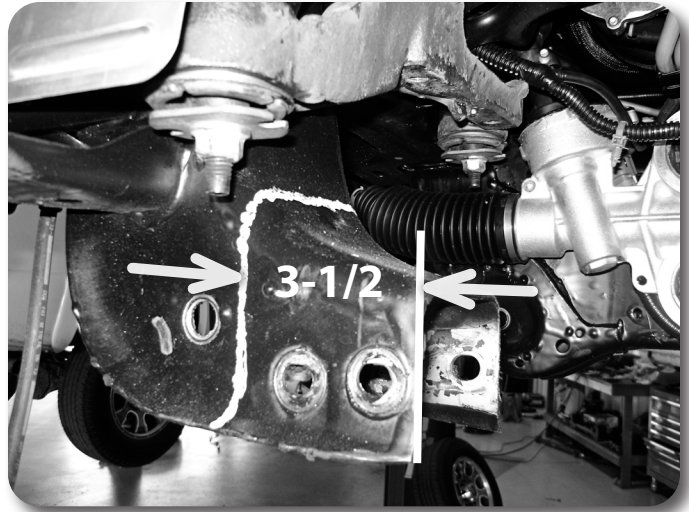

Figure 14 - Shown with differential removed for clarity
27. Measure from the inside of the driver's side control arm pocket out 3-1/2" and mark. Repeat this measurement on the opposite side of the pocket. Make vertical cut lines at the 3-1/2" mark up both front and back faces of the pocket **Figure 14**.